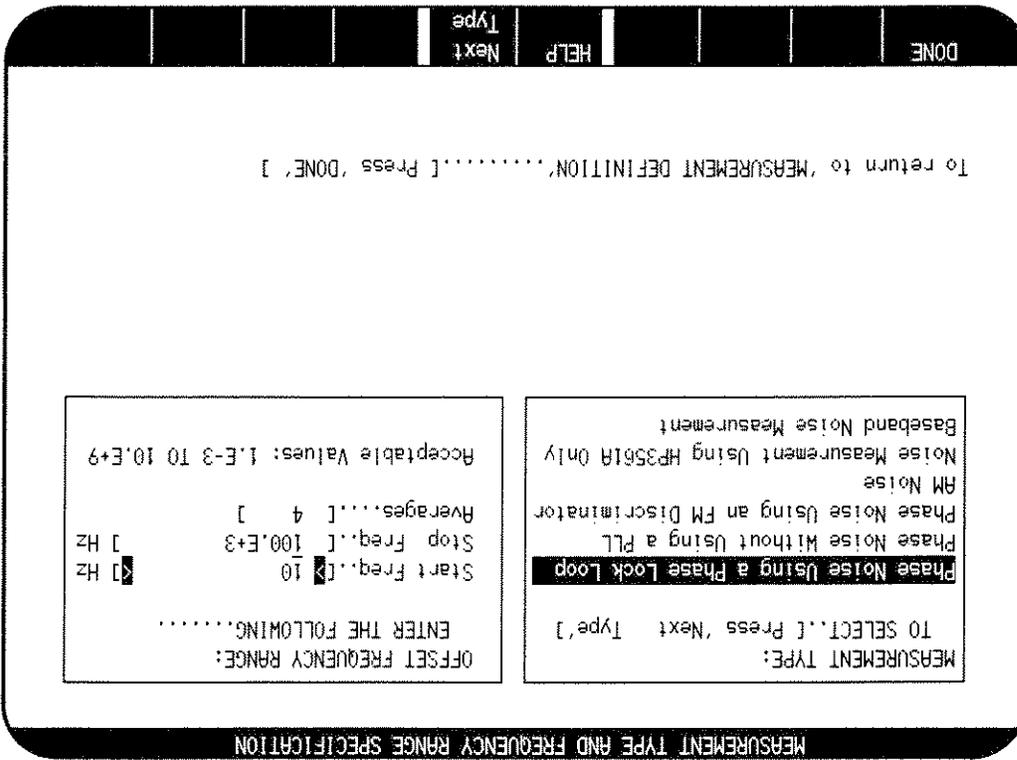

Figure 3-8. Measurement Type and Frequency Range Specification Menu
- On the HP 3048A press the **Type / Range** softkey to obtain the Measurement Type and Frequency Range Specification menu. Set the measurement type and offset frequency range as shown in figure 3-8. When done, press the **DONE** softkey.